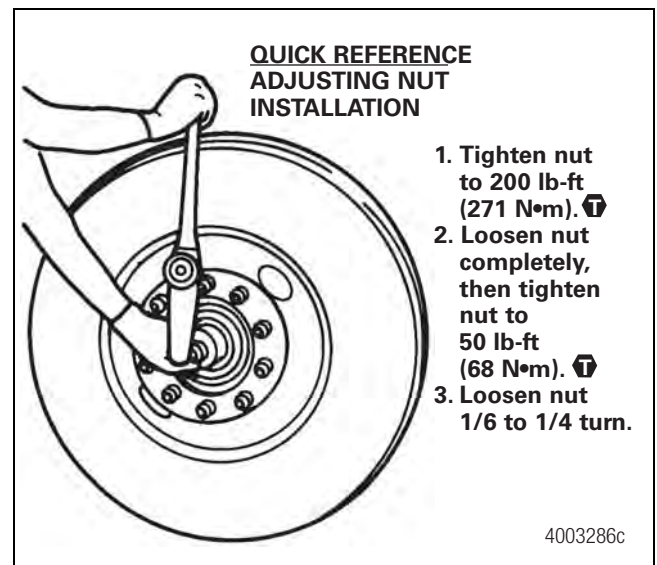

Figure 10.5
1. Install the adjusting nut so that the pin on the nut faces away from the wheel-end equipment. Tighten the nut to 200 lb-ft (271 N•m) while rotating the hub assembly. Figure 10.5.